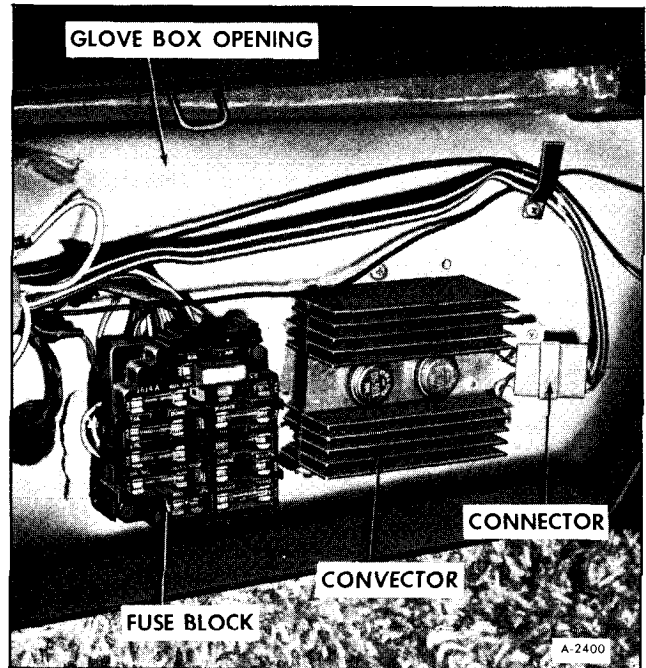

Figure 41—Convector Installation
### STEREO TAPE PLAYER CONVECTOR (FIGURE 41)
3. Remove the (2) retaining screws and remove convector (See figure 41).